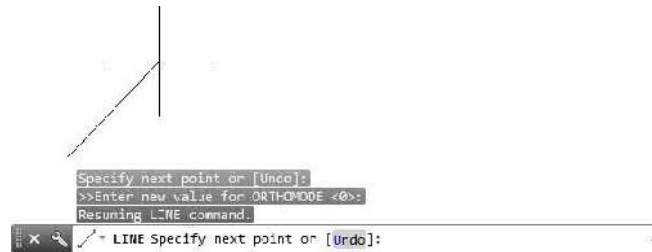

FIGURE 2.6: The command prompt changes for the next point, and the line's length and direction are shown in the drawing area.
5. Look at the command line again, and notice that the prompt has changed (see Figure 2.6).